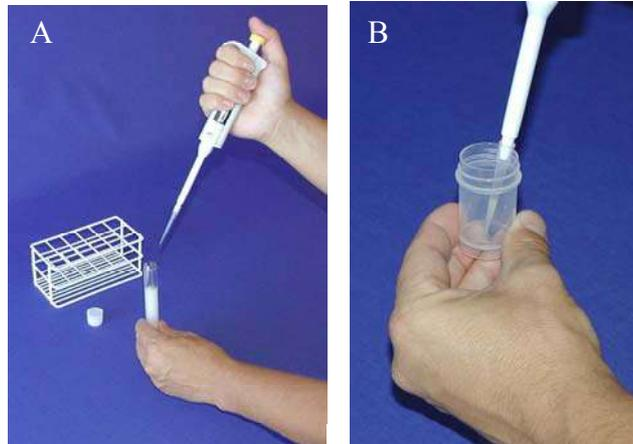

Figure 1. (A) Pipetting of 25 or 50 µl of sample and (B) transferring sample to center area of bottom of a 20 ml or a 35 ml sample cup
- 3A Put a new tip on the pipette and aspirate a representative volume of **50 µl** of the sample. Transfer the sample to the center area of the bottom of a **35 ml sample cup**. (*cf. figure 1*)
- 3B Put a new tip on the pipette and aspirate a representative volume of **25 µl** of the sample. Transfer the sample to the center area of the bottom of a **20 ml sample cup**. (*cf. figure 1*)